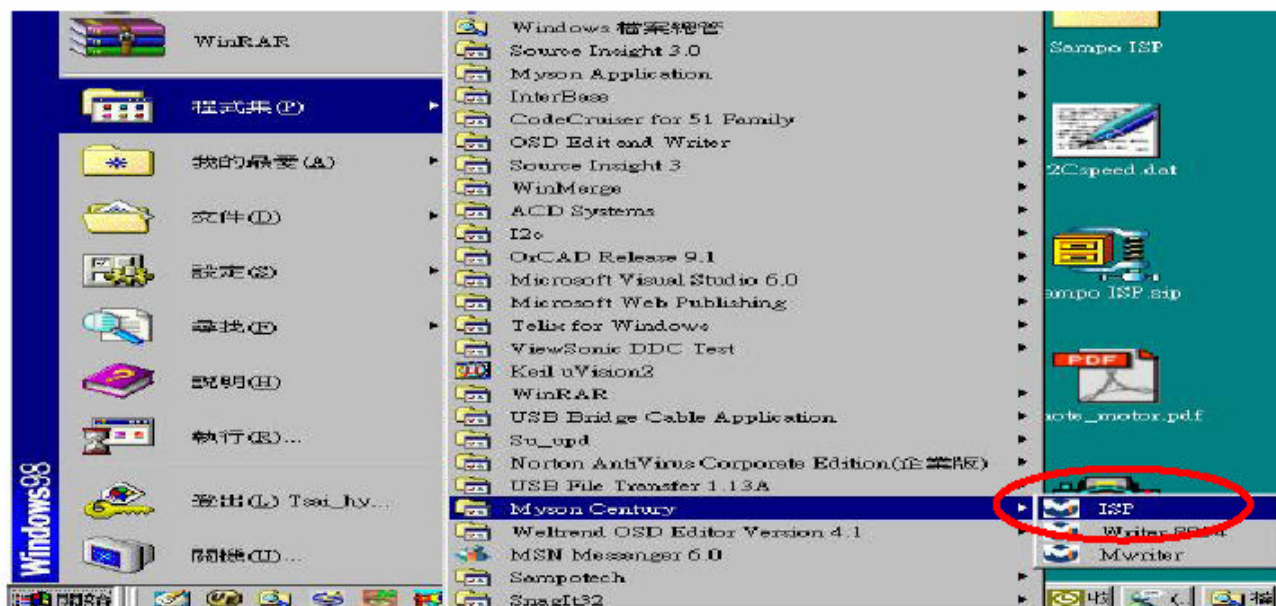

Fig 2.1
8.1. After installation, shortcuts may be found in the settings path or the program menu (default setting); see Fig 2.1.